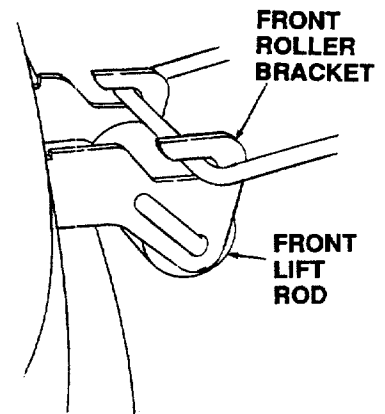

**Figure 51**
4. Refer to Figure 51 to ensure the correct orientation of the front lift rod/bracket assembly [form (bend) in sides of rod point downward]. From the front of the tractor, push downward and hold the tractor quick-attach rod. Slide the shoulder bolts on each side of the front lift rod/bracket assembly fully into the left and right tractor latch receivers. Release the tractor quick-attach rod to capture the front lift rod/bracket assembly in the tractor latch receivers (Refer to Figure 52).